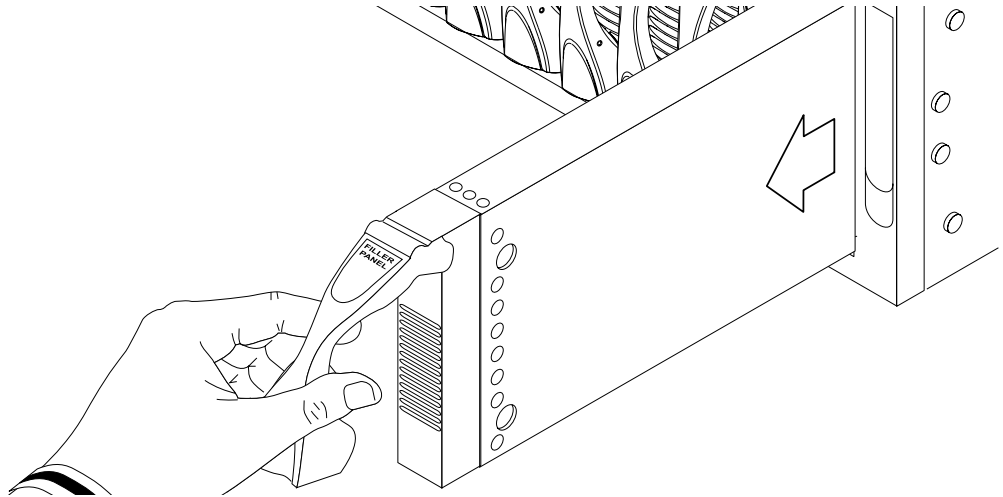

FIGURE 2-3 Removing the Filler Panel
- 3. Pull the lever to remove the filler panel from the system chassis (FIGURE 2-3).**